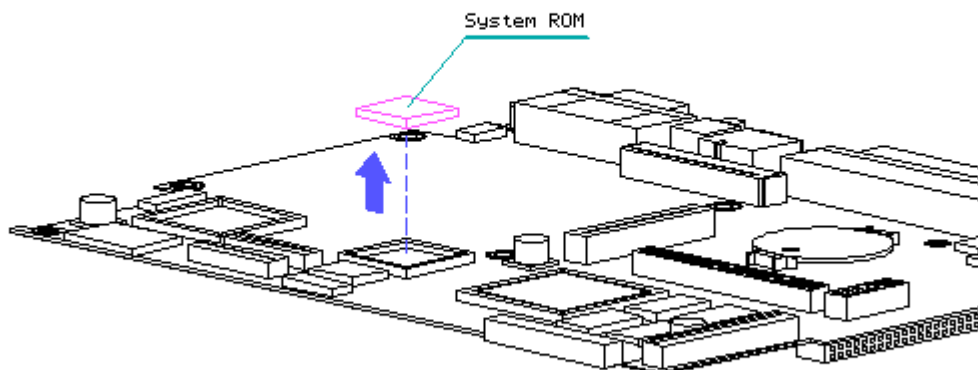

Figure 2-35. Removing the System ROM from the Processor Board
2. Remove the system ROM from the processor board by gently lifting up on the system ROM with the ROM removal tool (Figure 2-35).